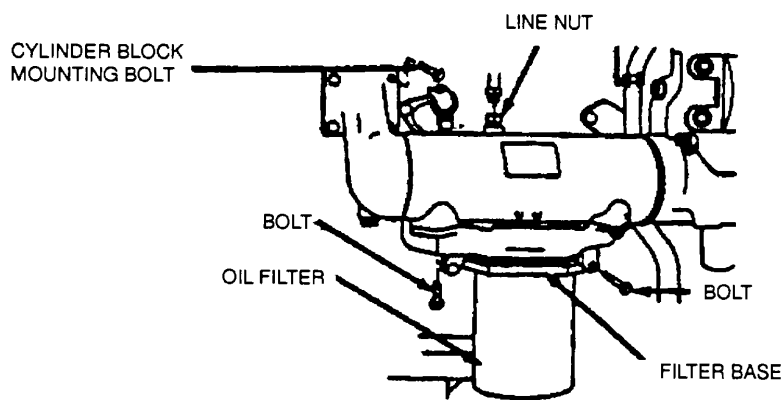

Figure 4-4. HP Pump Diesel Engine Oil Filter.
- (1) Wipe dirt from oil filter (Figure 4-4).
- (2) Remove and discard filter.
- (3) Clean the filter base and remove all old gasket material.
- (4) Lightly coat filter gasket with engine oil.
- (5) Install new filter Hand tighten an additional $\frac{3}{4}$ turn after gasket contacts the base.